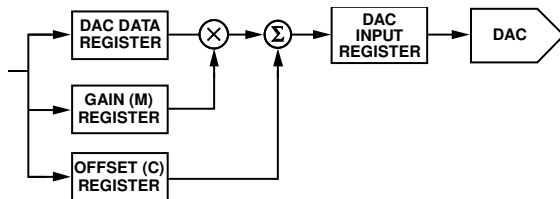

Figure 53. Digital Offset and Gain Control
Each DAC channel has a gain (M) register and an offset (C) register, which allow trimming out of the gain and offset errors of the entire signal chain. Data from the DAC data register is operated on by a digital multiplier and adder controlled by the contents of the gain and offset registers; the calibrated DAC data is then stored in the DAC input register (see Figure 53).
Although Figure 53 indicates a multiplier and adder for each channel, the device has only one multiplier and one adder, which are shared by all four channels. This design has implications for the update speed when several channels are updated at once (see Table 3).